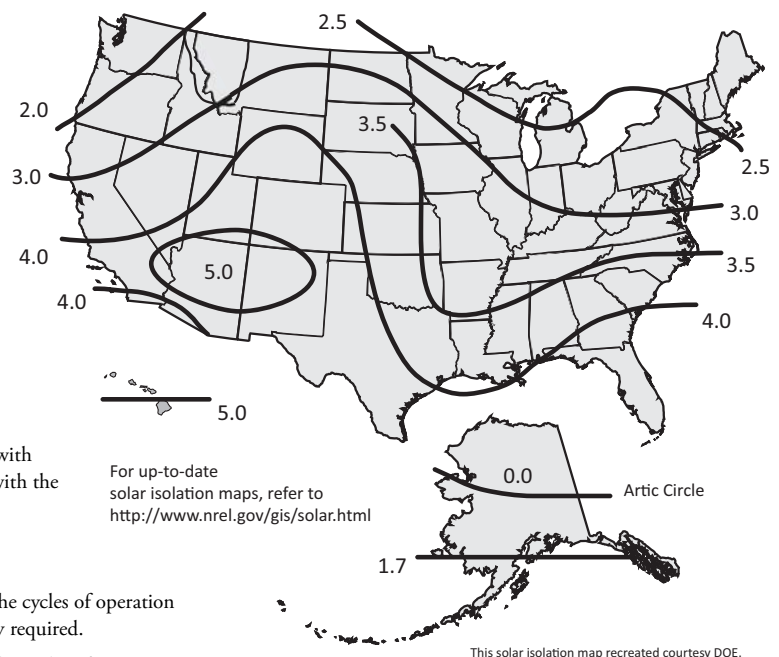

Figure 2-8.
- Solar hours at the site. “Solar hours” relate to the amount of energy delivered by the sun and absorbed by the solar panels. It is NOT the same as the number of daylight hours available at the site. See Figure 2-8.